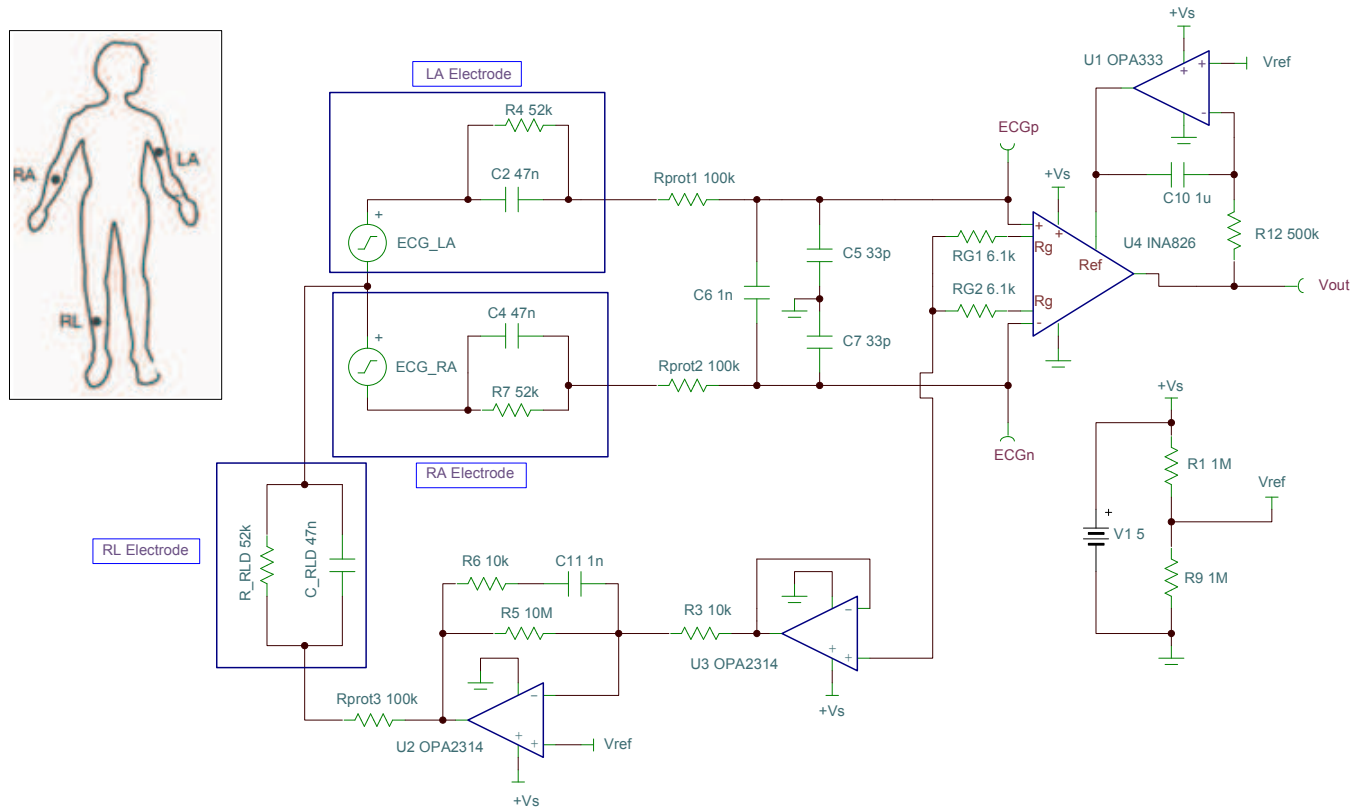

Figure 67. ECG Circuit
Figure 67 is an example of a LEAD I ECG circuit. The input signals come from leads attached to the right arm (RA) and left arm (LA). These signals are simulated with the circuitry in the corresponding boxes. Protection resistors (R_{PROT1} and R_{PROT2}) and filtering are also provided. The OPA333 is used as an integrator to remove the gained-up dc offsets and servo the INA826 outputs to V_{REF} . Finally, the right leg drive is biased to a potential ($+V_S/2$) and it inverts and amplifies the average common-mode signal back into the patient's right leg. This architecture reduces the 50-/60-Hz noise pickup. Click the following link to download the TINA-TI file: ECG Circuit.